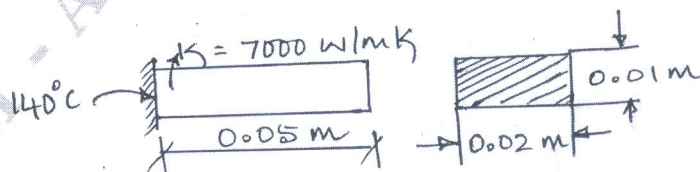

Fig. Q7 (b)
b. Determine the temperature distribution in the rectangular fin as shown in Fig. Q7 (b). Assume steady state and only conduction process. Take heat generated inside the fin as  $400 \text{ W/m}^3$ .